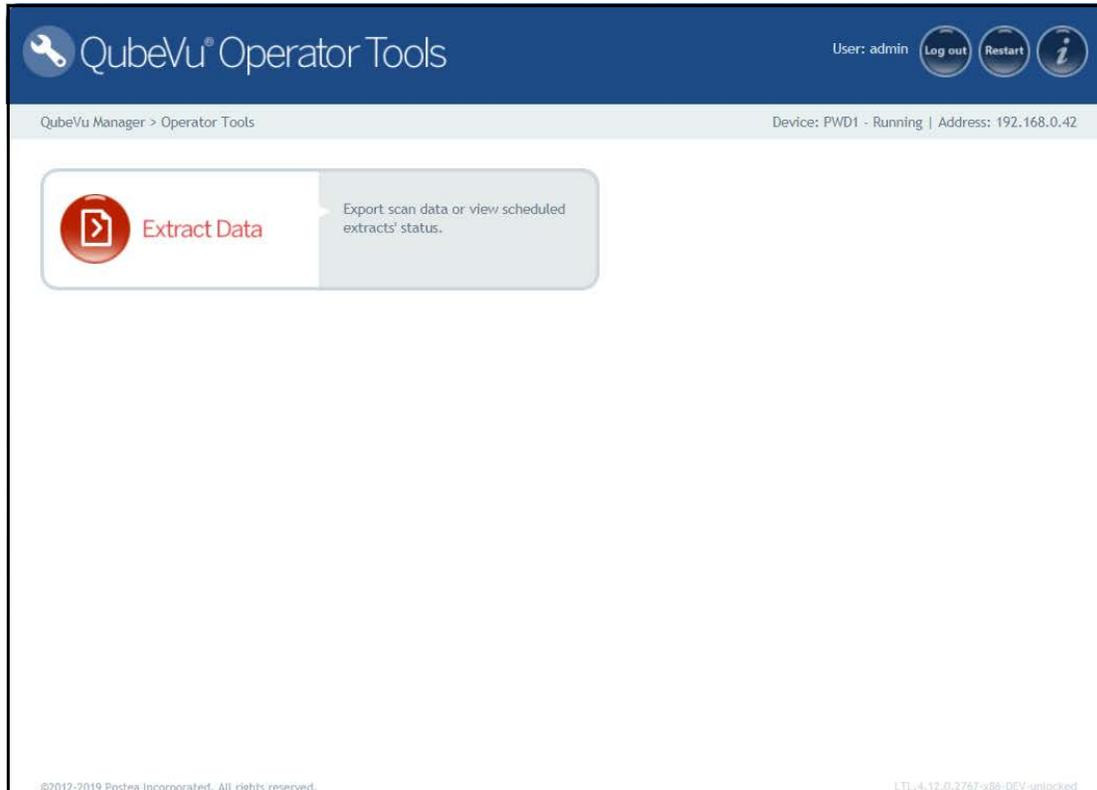

Figure 4-1. Operator Tools Menu
1. Press  **Extract Data** from the **Operator Tools** menu (Figure 4-1 on page 14) to enter the **Extract Data** menu.